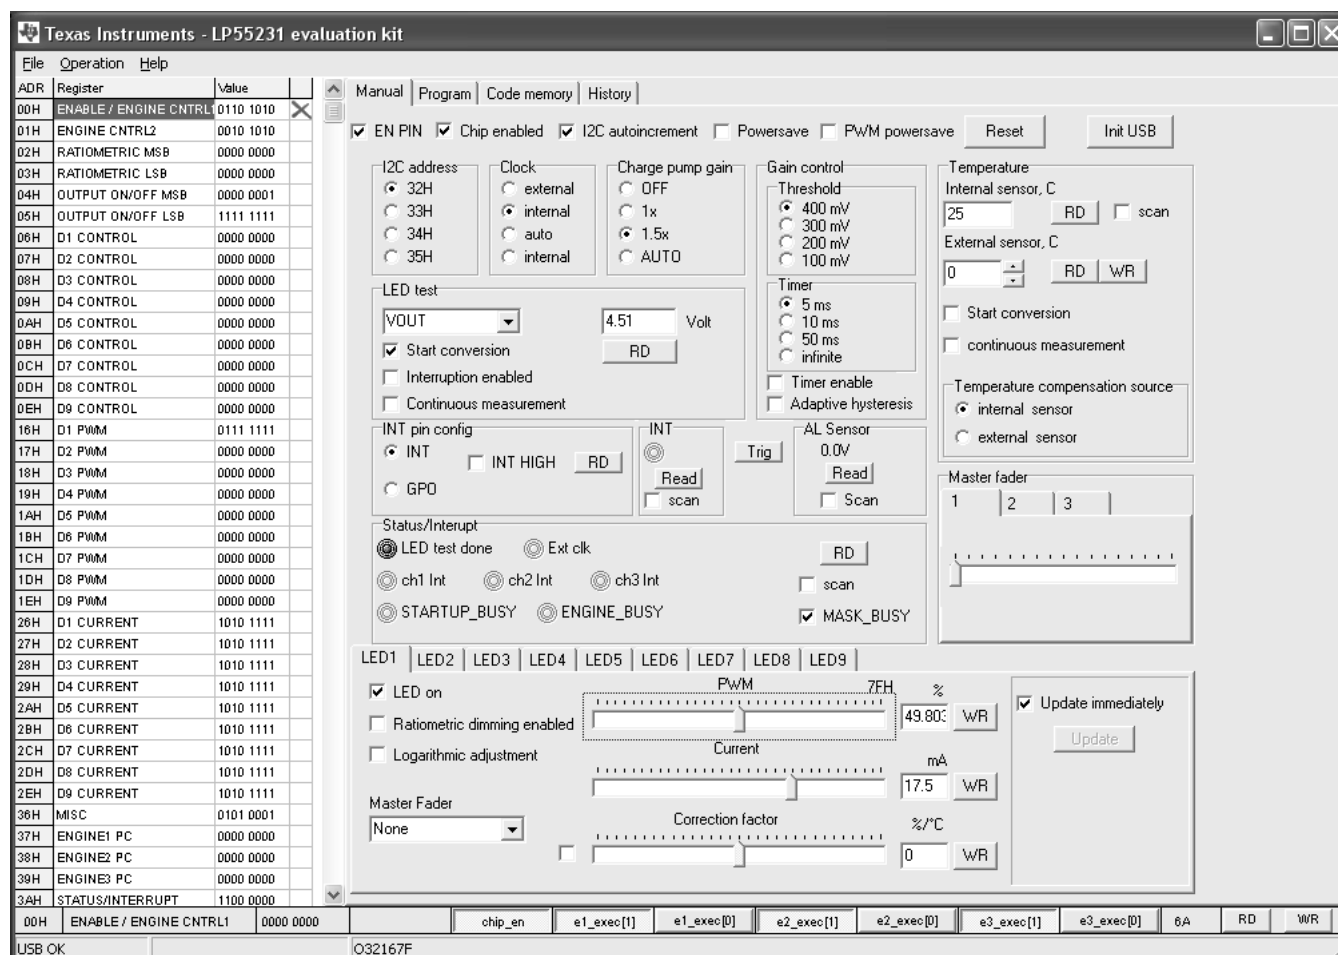

Figure 4. LP55231 Evaluation Software Control Panel
7. The evaluation kit is now fully up and running, and the device can be controlled through the PC software. Figure 4 shows the evaluation software user interface (Control Panel).
The evaluation software provides read-write control over the registers within the LP55231. Bits can be set from a logical '1' to a logical '0' or vice versa by a mouse click; for some settings there is also a slider control provided. The evaluation software window is divided into two panels: control panel and indicator panel (see Figure 4). The leftmost panel is the indicator panel, and it shows the status of the LP55231 registers (excluding the program memory).
The first step to start with the LP55231 is to enable the chip; tag the Chip enabled check box. At first it is best to use the following settings: Clock internal and Charge pump gain 1.5x (see Figure 4). At this point it is good to ensure the charge pump output voltage with the LP55231 built-in LED error detection. To do this, select VOUT from the LED test drop-down menu and tag Start conversion. Use the adjacent RD button to read the result: it should be around 4.5 volts. Also click on the RD button on the Status/Interrupt section to verify that the internal clock is used (Ext clk indicator light should be OFF), and that the LED test is done (LED test done indicator should be ON).
Reset the LP55231 and start the charge pump as shown in Figure 4. Set 5 mA current, 50% PWM for LEDs 1 and 2; set 3.5 mA current, 50% PWM for LED 7.